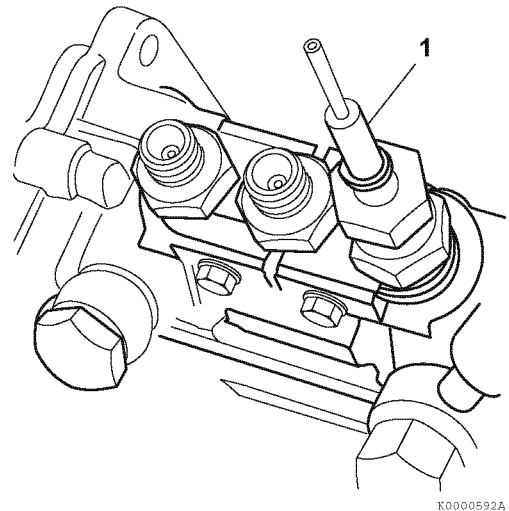

Figure 7-33
13. Install the “spill-timing” tool (**Figure 7-33, (1)**) onto the delivery valve for the cylinder being checked. *See Measuring Instruments on page 7-9.*